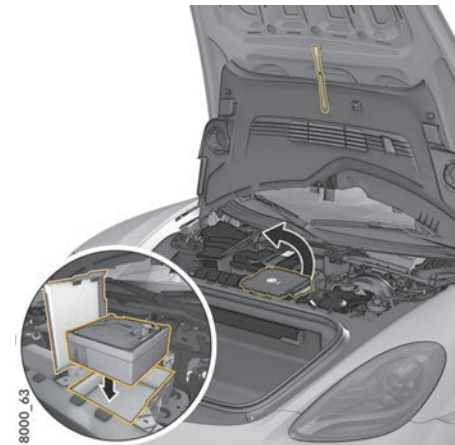

Fig. 115: Opening storage compartment for tyre filling compressor
4. Open the storage compartment for the tyre filling compressor (Fig. 115).